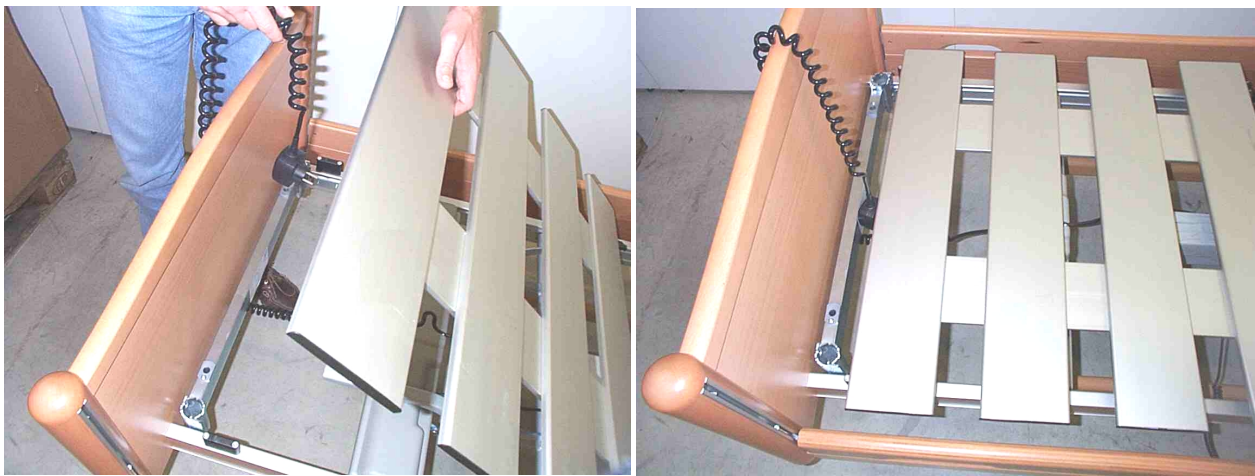

Figure 37
- Use manual control unit to extend castors (see Operating instructions). Disconnect mains plug and feed cable over headboard, raise mattress-frame back section, lay mains plug over the cross-member and lower back section again (see Figure 37). In this way, the power plug cannot fall down during transport.